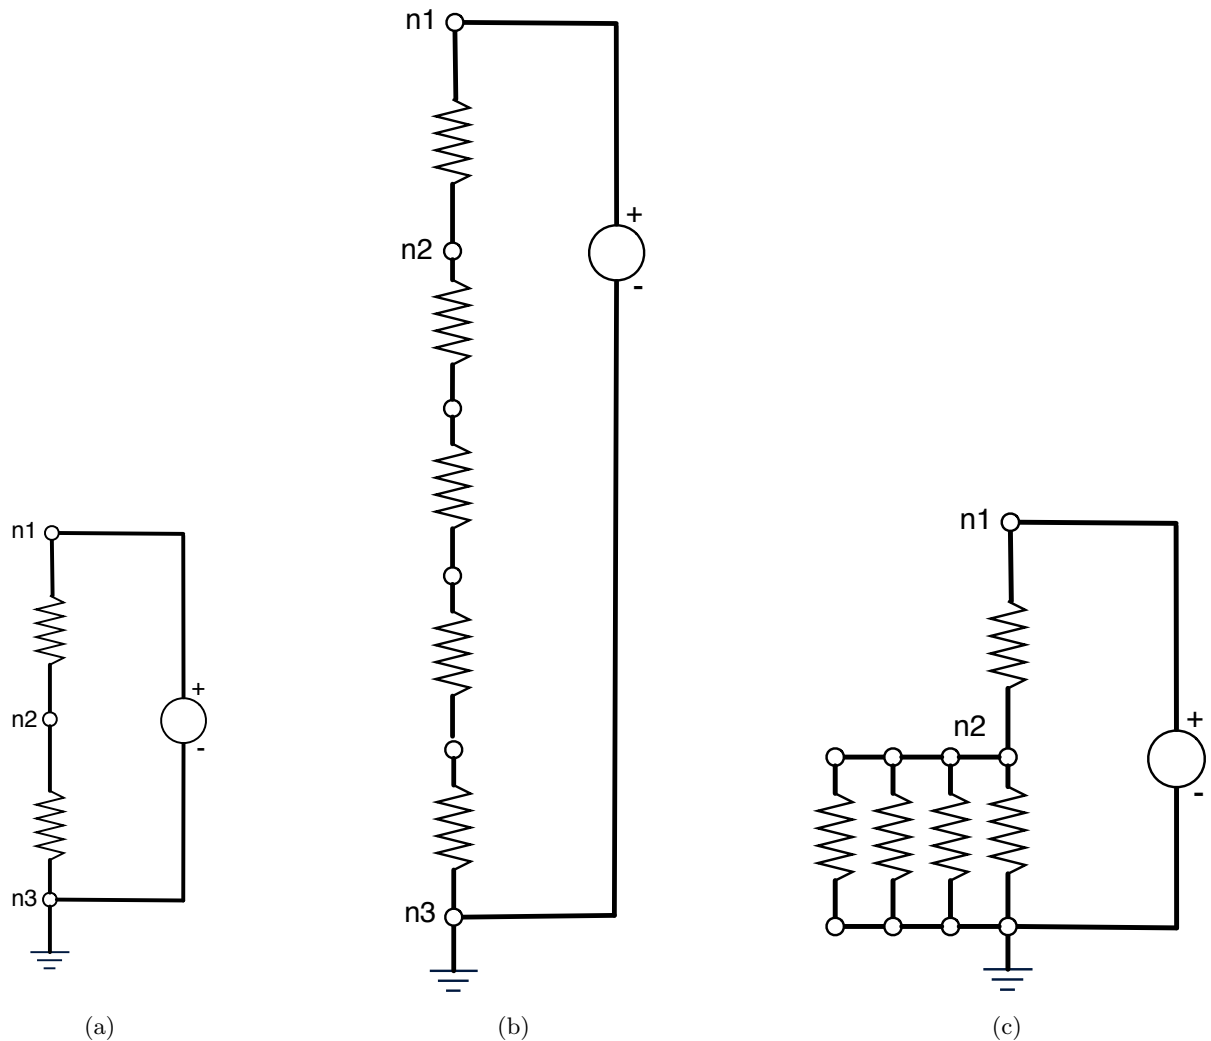

Figure 5: Resistor Circuits
**Question 17:** Figure 5(a) shows a circuit with two  $100\Omega$  resistors and a  $10\text{V}$  source. What is the voltage at node  $n_2$ ?
**Question 18:** Figure 5(b) shows the circuit in Figure 5(a), but with four  $100\Omega$  resistors, wired “in series” in the place of  $r_{2,3}$  (the resistor between nodes  $n_2$  and  $n_3$ ). What is the voltage at node  $n_2$  in this circuit?
**Question 19:** How could you choose the resistance of  $r_{2,3}$  in the circuit in figure 5(a) so that the voltage at node  $n_2$  would be the same as it is in the circuit in figure 5(b)?
**Question 20:** Figure 5(c) shows the circuit in Figure 5(a), but with four  $100\Omega$  resistors, wired “in parallel” in the place of  $r_{2,3}$ . What is the voltage at node  $n_2$  in this circuit?
**Question 21:** How could you choose the resistance of  $r_{2,3}$  in the circuit in figure 5(a) so that the voltage at node  $n_2$  would be the same as it is in the circuit in figure 5(c)?